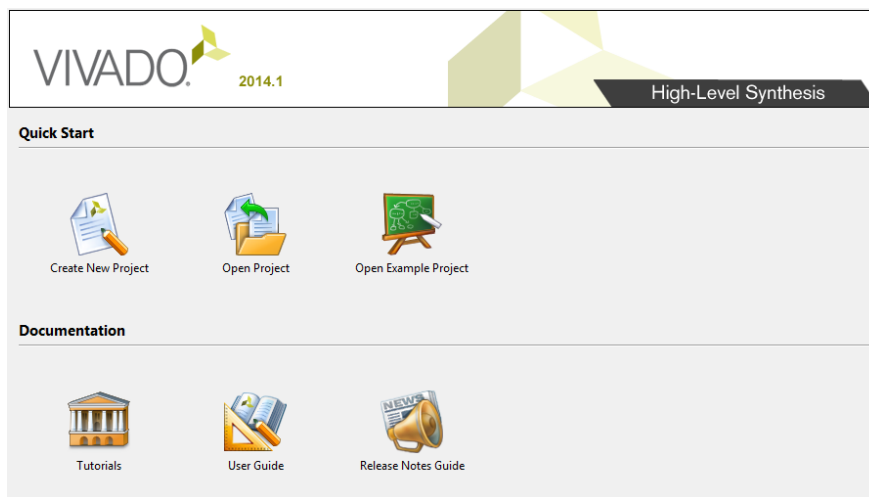

Figure 3.1: Vivado HLS welcome screen
- When the Vivado HLS GUI loads, you will be presented with the *Welcome* screen as in Figure 3.1.
- Select the option to **Create New Project** in Figure 3.1